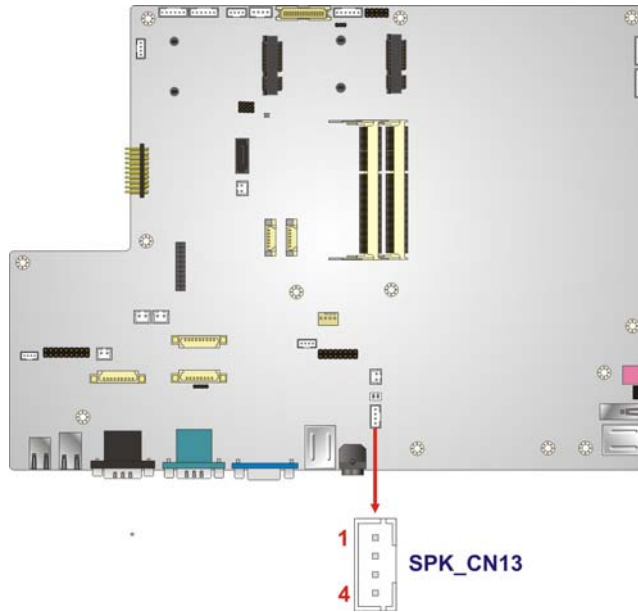

Figure 5-30: Speaker Connector Location
- CN Location: See **Figure 5-30**